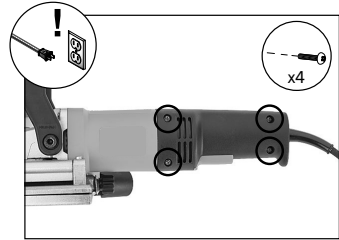

Fig. 28. Location of main handle fasteners
2. Remove (4) tap screws from left side of main joiner handle (see Figure 28), and separate both sides of handle.